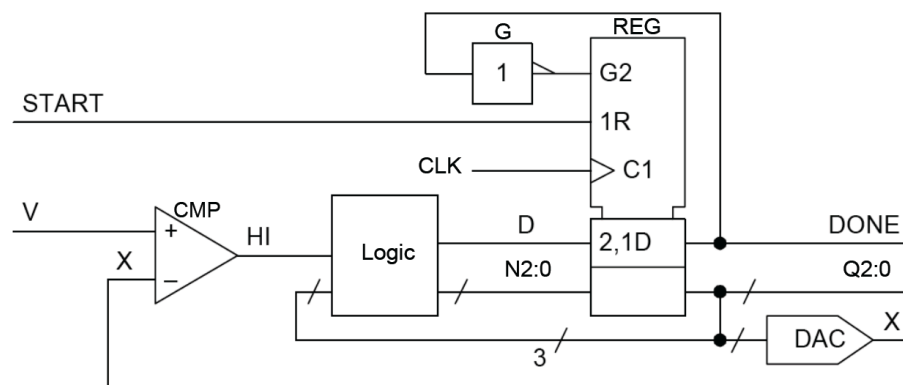

Figure 2.1
- (b) *Figure 2.1* shows the circuit of a 3-bit successive approximation A-to-D converter. The circuit consists of a 3-bit D-to-A converter (DAC), an analogue comparator (CMP), a NOT-gate (G), a register (REG) and a logic block (Logic). The DAC produces an analogue output value $X = Q_{2:0} - 0.5$ volts in the range of -4.5v to $+3.5\text{v}$. The comparator output HI is true whenever the input V is greater than the DAC output X. On the rising edge of the clock signal CLK, the register is loaded with the new data if $\text{START} = \text{DONE} = 0$.
The register and logic block form a synchronous state machine whose state is defined by the signed 3-bit number $Q_{2:0}$. Together they implement the successive approximation algorithm with a state diagram as shown in *Figure 2.1* when $\text{START} = \text{DONE} = 0$. A conversion is initiated by START going high for one clock cycle to reset the register.
- (iii) Write in Verilog HDL a description of the synchronous state machine, which will synthesis all the digital circuits in *Figure 2.1* (i.e. everything excluding CMP and DAC). [12]